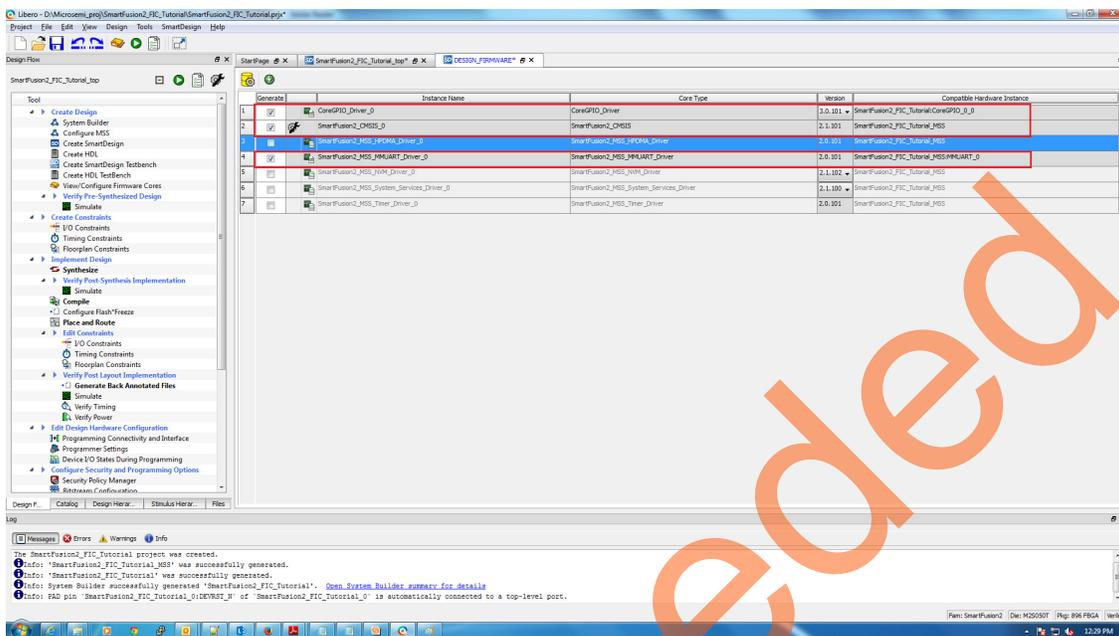

Figure 19 • Configure Firmware
- Open **Firmware Configuration** window by clicking **Design> Configure Firmware** and select SmartFusion2\_CMSIS\_0, CoreGPIO\_Driver\_0, SmartFusion2\_MSS\_MMUART\_Driver\_0 and uncheck other drivers as shown in Figure 19.